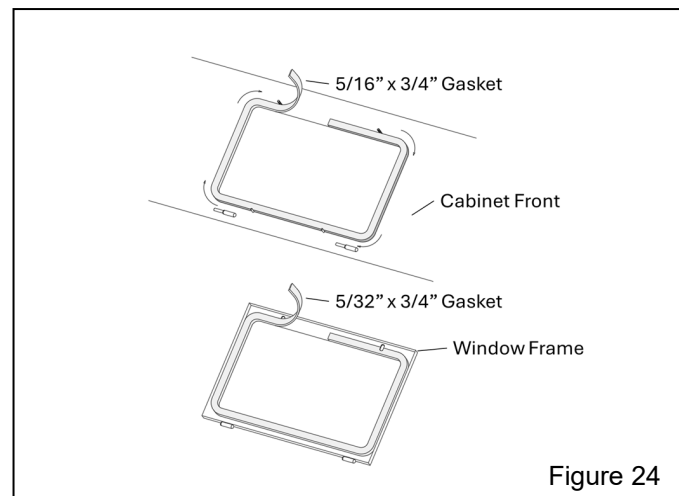

Figure 24
7.5 Window-Gasket Replacement – Figure 24